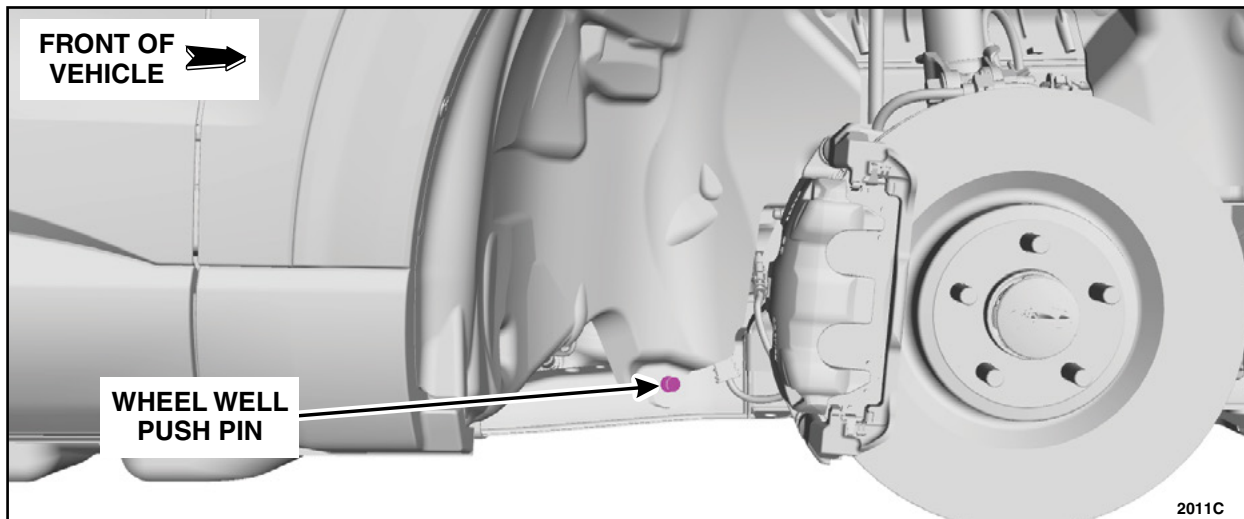

FIGURE 3
3. Remove the wheel liner push pin. See Figure 3.